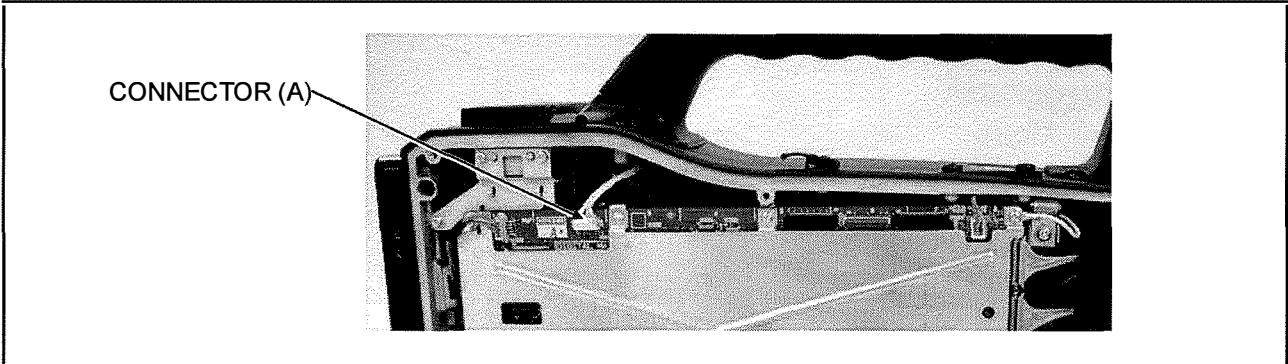

Figure 14-1
2. Disconnect a connector (A) as shown in figure 14-1.